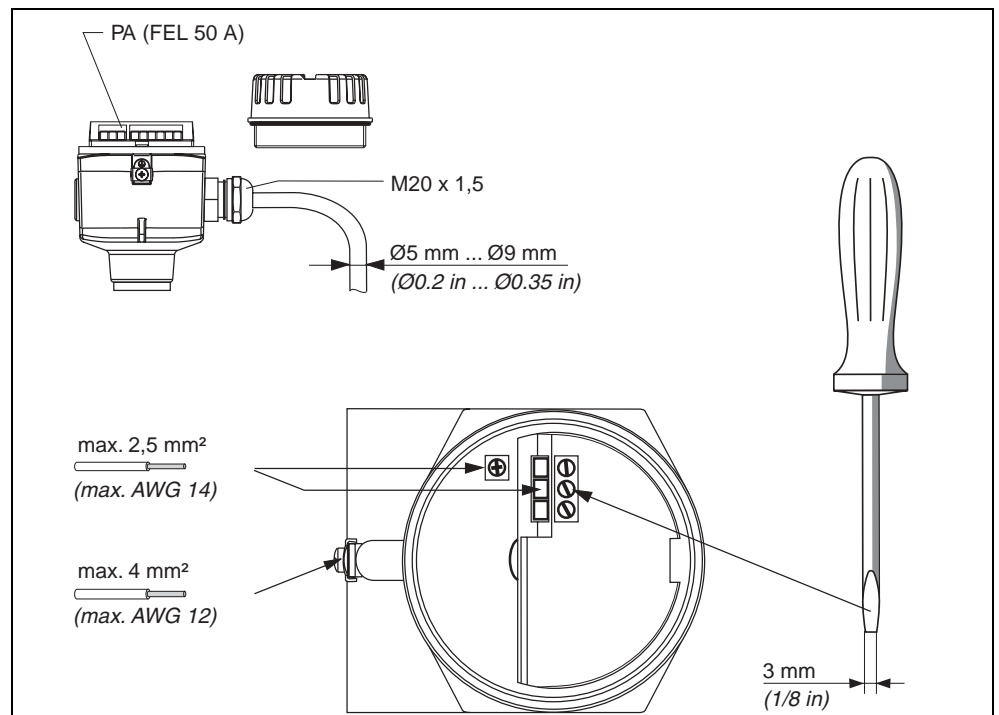
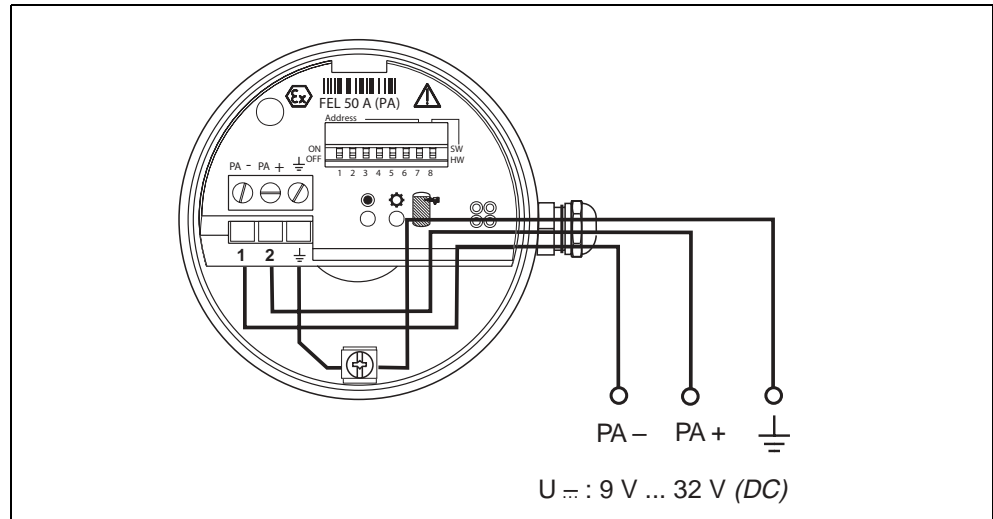

Figure 4.1 Connection of transmitter with cable gland
Figure 4.2 Assignment of screw terminals
3. Connect the cables in accordance with the wiring diagram: see fig. 4.1 and fig. 4.2